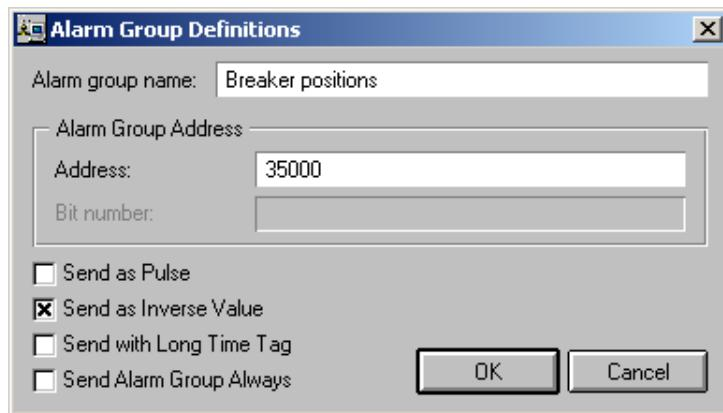

Figure 27: *Alarm Group Definitions* dialog
1. Click **Add**. The **Alarm Group Definitions** dialog appears on the screen; see Figure 27.